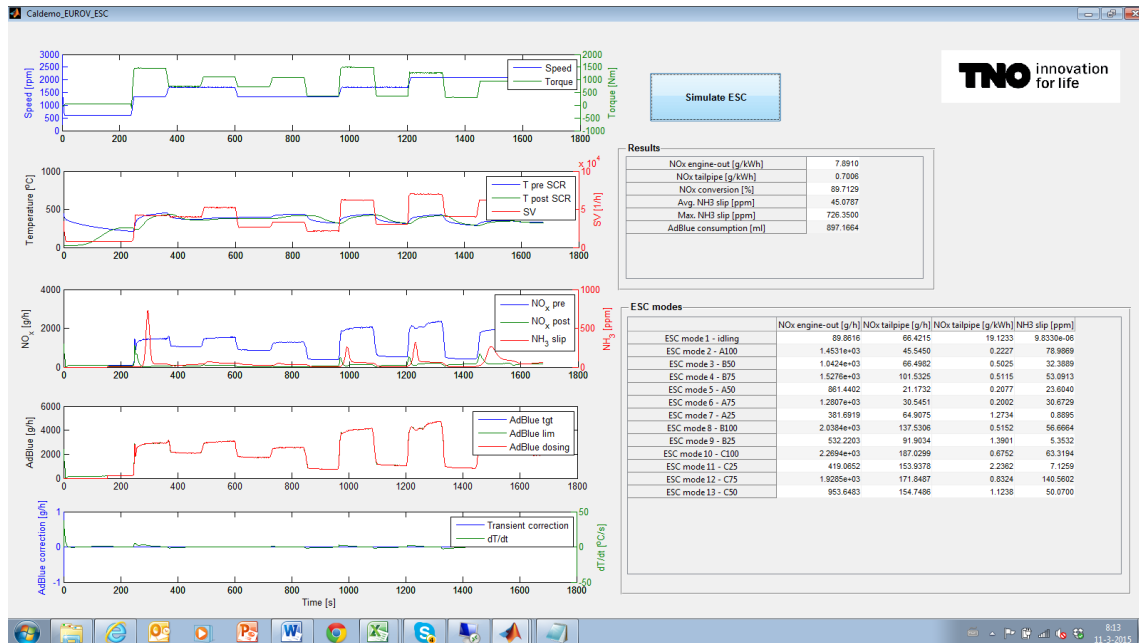
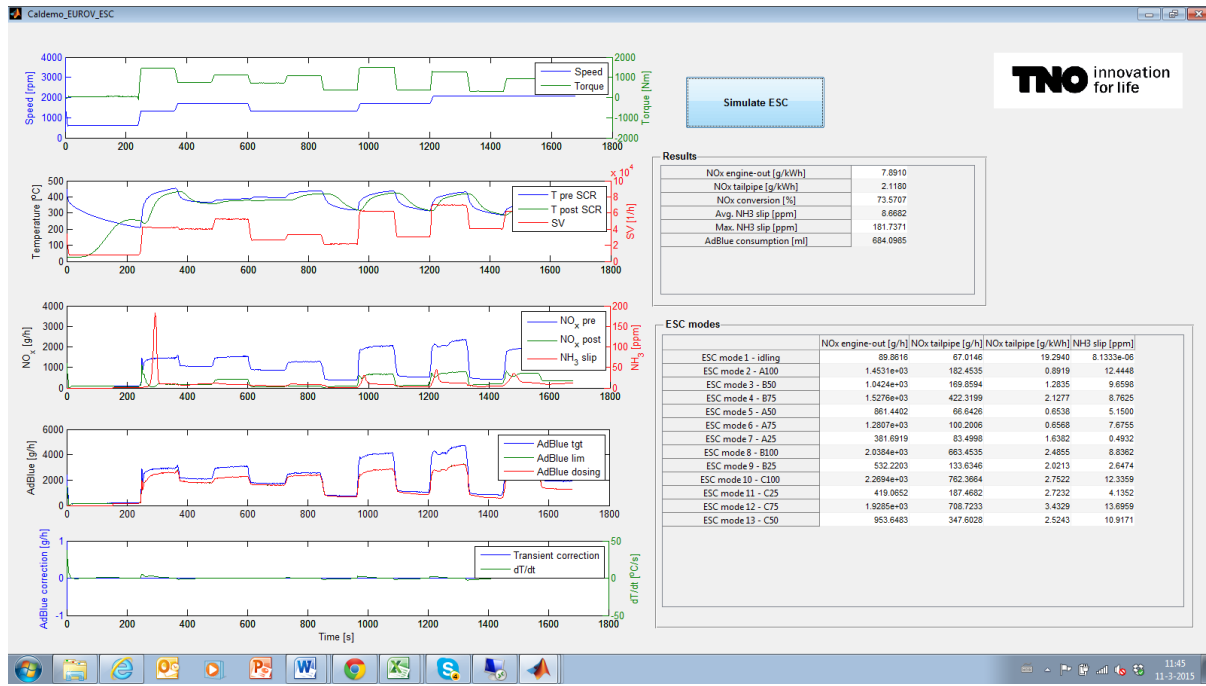
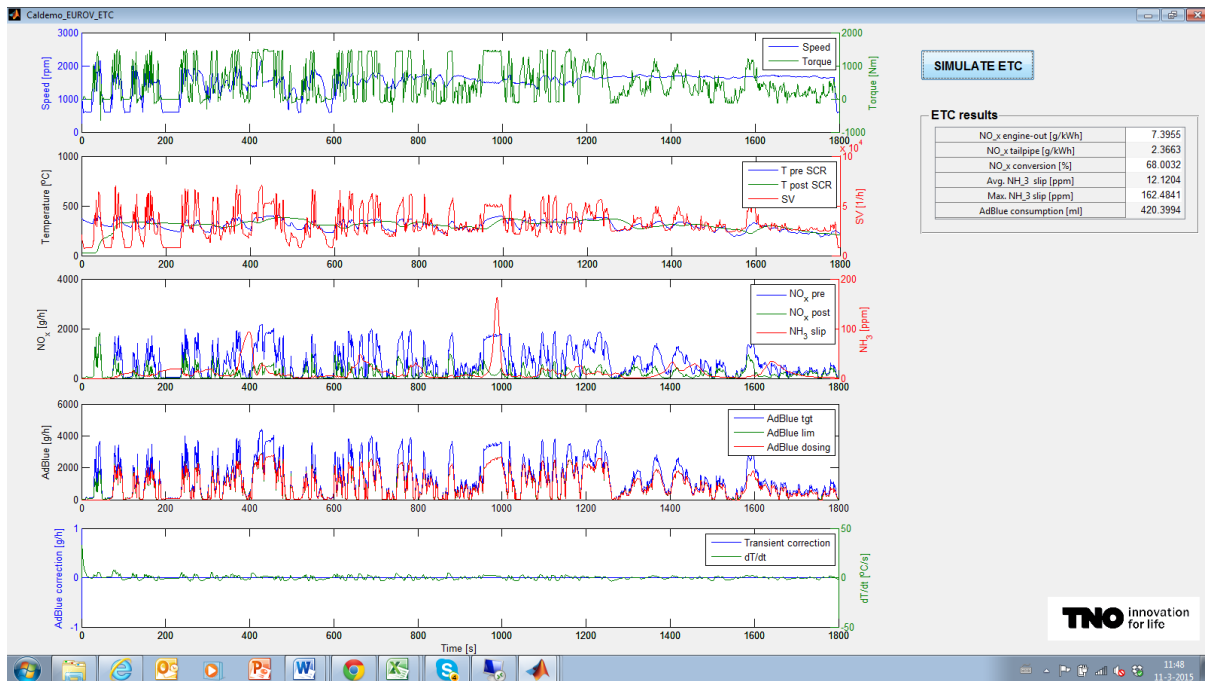

Figure 4: ESC results for NSR=1, tailpipe NOx and transient compensation set to zero
Figure 6: ESC results with initial NSR calibration (default catalyst dimensions)
Figure 8: ETC results with initial NSR calibration (default catalyst dimensions)
For default NSR map with all values equal to 1 and tailpipe NO_x target and transient compensation, first ESC results are determined, see Figure 6. Note that urea dosing starts if $T_{SCR} > 200^\circ\text{C}$ (see also `../parameterfiles/ControlParams.m`).
where the various modes and corresponding values for W_i can be found in Figure 2. For each mode, the 60s average of the corresponding values is determined (including tailpipe NOx). As ANR=1 across whole operating range, AdBlue dosing is not limited (as illustrated in subplot(514) in Figure 4). However, average and peak NH3 slip are above desired values: 10 and 25 ppm respectively.
In the exercise, an initial NSR map is given to meet Euro-V targets, see Table 6. The corresponding ESC and result is shown in Figure 6 and Figure 8, respectively. For this calibration, weighted tailpipe NOx emission is 2,12 g/kWh over ESC; NH3 slip reduced compared to NSR=1 case in Figure 4 due to AdBlue dosing limitation (see subplot(514) in Figure 6). However, a tailpipe NH3 target is not met yet.